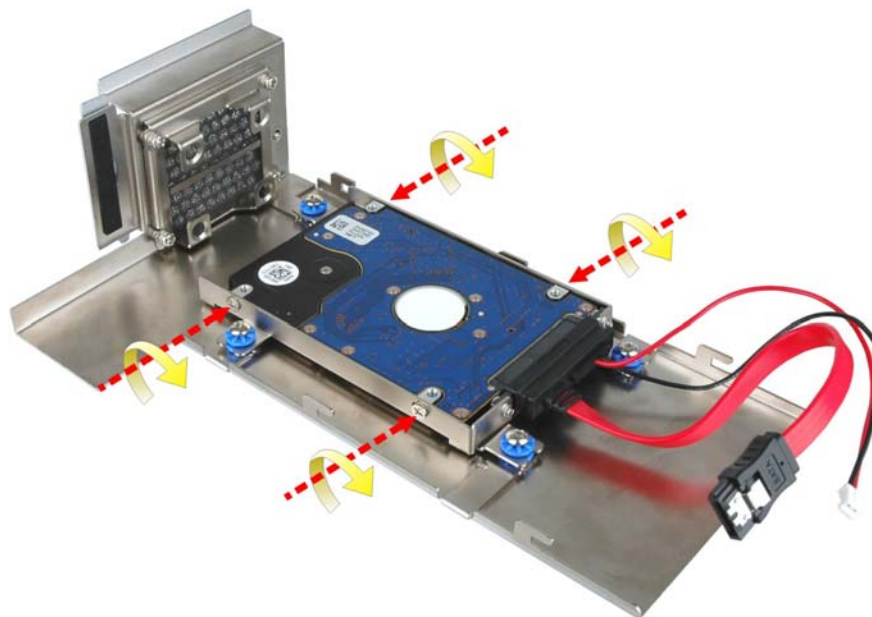

Figure 3-7: HDD Retention Screws
**Step 4:** Secure the HDD with the HDD bracket by four retention screws (**Figure 3-7**).